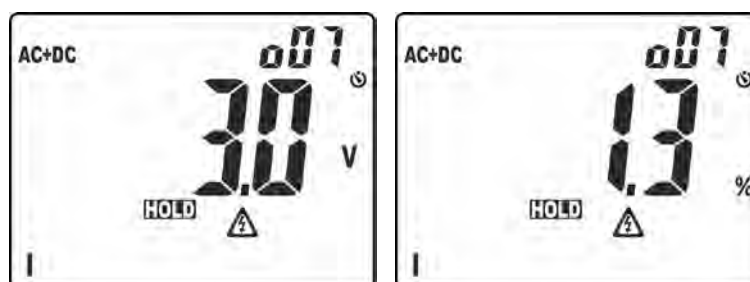

Fig. 4: Display of ordering of amplitude of harmonic analysis
- Long pressing of the key (at least 2s) in order to activate the **H₂O** (Higher Harmonic Ordering) ordering function of the amplitude of harmonics. In these conditions, function "HOLD" is automatically activated and symbol "o" appears next to the displayed harmonic order to indicate that the Ordering function is activated. The bargraph is disabled and the instrument shows the value of amplitude of all the harmonics between the DC value and the 25th, fundamental harmonic excluded, in a **decreasing order** starting from the harmonic with the highest amplitude, as shown in Fig. 4
In the example in Fig. 4, the harmonic with the highest value corresponds to the 7th. Press key **▲** to observe the amplitude of the remaining harmonics and press key **H/H%/H** again to switch between display in absolute and percentage values. Turn the rotary switch to exit the function.